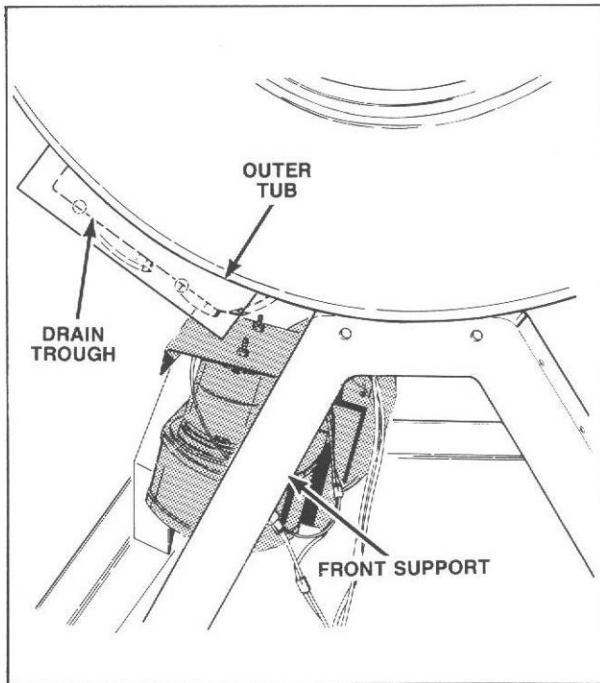

Figure 38
- p. Grasp outer tub at dispenser opening and loading door opening, rotate clockwise far enough for drain trough to clear front support, *Figure 38*, and pull outer tub off cylinder.